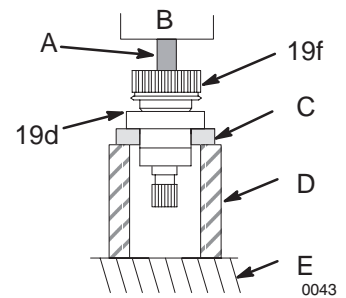

Fig. 15
4. **Using a hydraulic press**, place pieces of steel bar stock on the inner race of the large bearing (19d) and press the shaft through the hub and bearing. See Fig. 15.